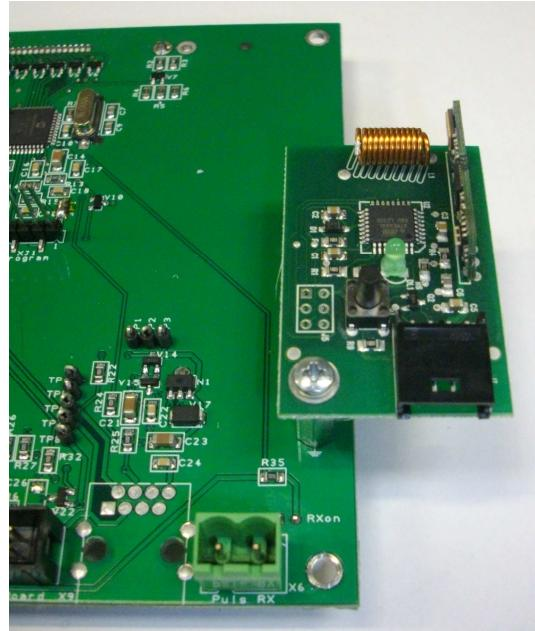

Figure 6-17
4. Assemble the A6 Radio board on the CPU board using the provided screw (Figure 6-17).
3. Press and release the button on the A6 Radio board (Figure 6-17). The relevant LED will turn on.